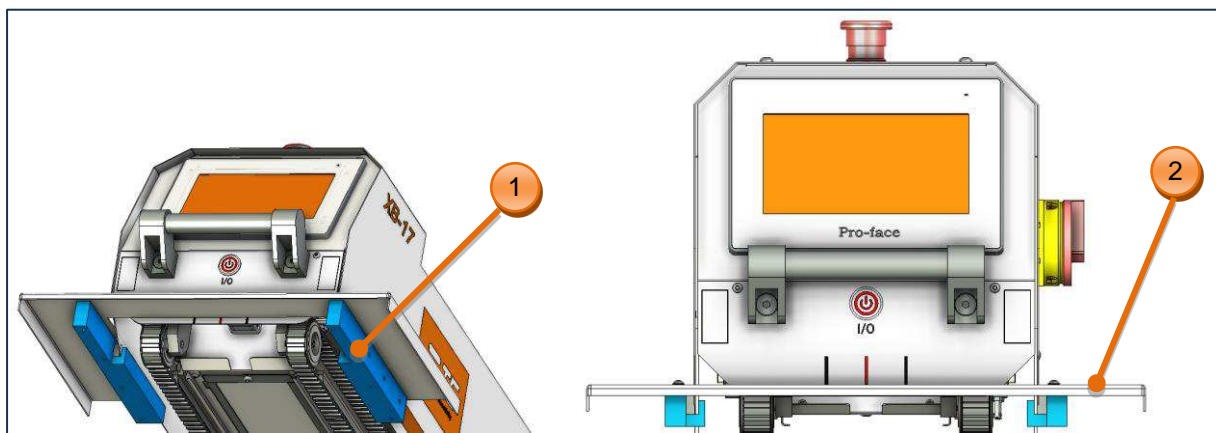

Figure 62: CD safety guard
- Refer to Figure 62 install the CD safety guard onto top chamber and fix it by 6X set screws.